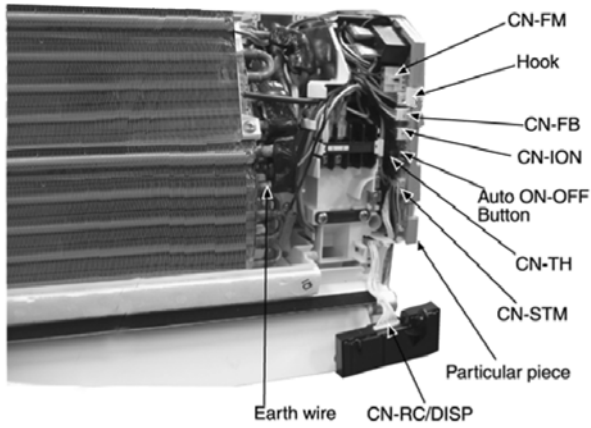

Fig. 4
- Remove the particular piece (Fig. 4)
- Release CN-FM connector (Fig. 4)
- Release CN-FB connector (Fig. 4)
- Release CN-ION connector (Fig. 4)
- Release CN-TH connector (Fig. 4)
- Release CN-STM connector (Fig. 4)
- Release CN-RC/DISP connector (Fig. 4)